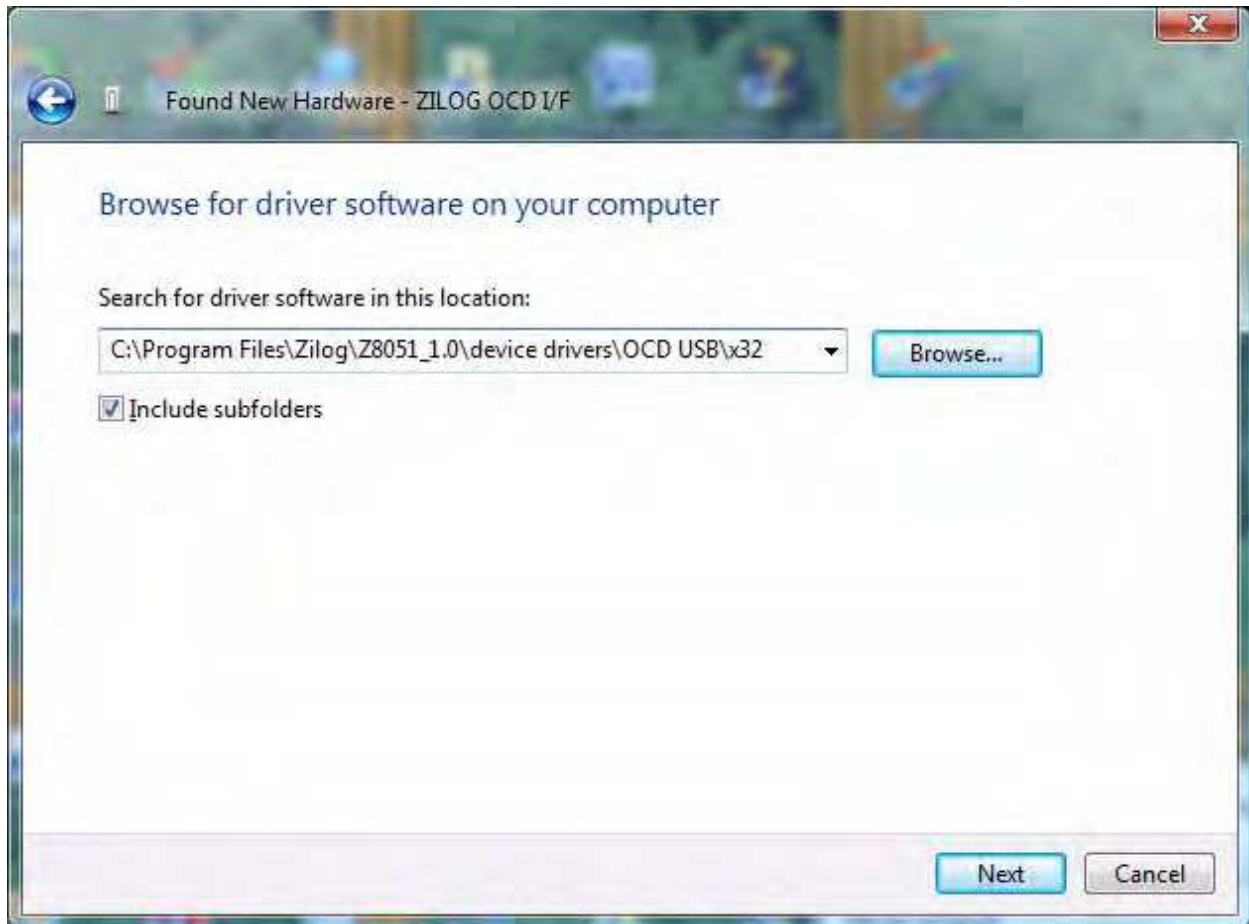

Figure 6. Browse For Driver Dialog, Windows Vista
3. Select **Browse my computer for driver software (advanced)** to display the dialog shown in Figure 6, which prompts you to key in or browse for the location of the `.inf` file. Depending on the type of computer you use (32-bit or 64-bit), use the **Browse** button to navigate to one of the following paths, then click the **Next** button.